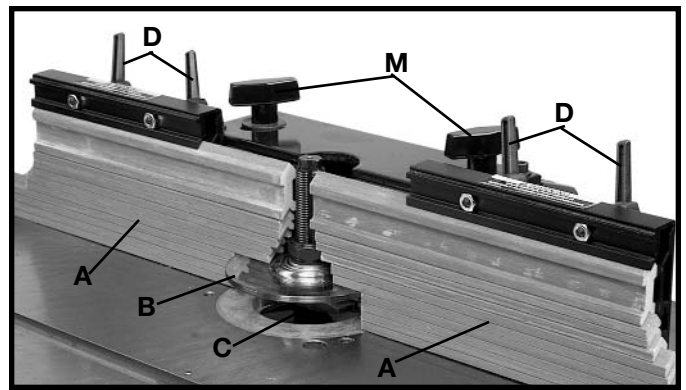
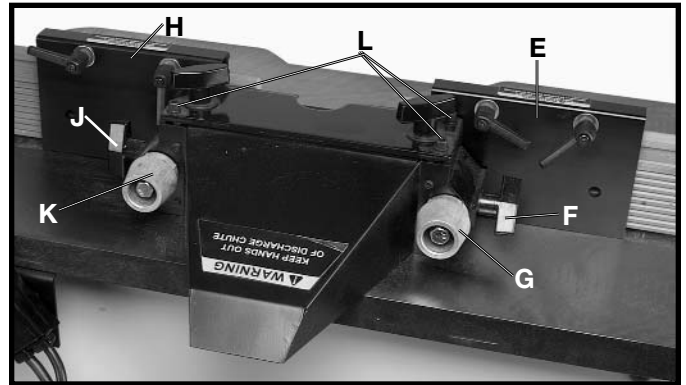

Fig. 25
Fig. 26
IMPORTANT: The individual fence segments (A) should be adjusted endwise so the opening is never more than required to clear the spindle guard (B) and cutter (C), as shown in Fig. 25. To adjust the fence segments (A) endwise, loosen lock handles (D), adjust each individual fence segment (A) and tighten lock handles (D). **NOTE:** Lock handles (D) are spring-loaded and can be repositioned by pulling out on the handle and repositioning the hub of the handle on the serrated nut located underneath the handle.
The complete fence assembly can be positioned on the table in relationship to the cutter by loosening the two knobs (M) Fig. 25, moving the fence assembly to the desired position and tightening the two knobs (M). Each fence half (E) and (H) Fig. 26, can be moved independently in or out, depending on the type of shaping operation that is being performed. To move fence half (E) Fig. 26, in or out, loosen lock knob (F) and turn adjusting knob (G) until the correct setting of the fence (E) is obtained. Then tighten lock knob (F). Fence half (H) is moved in the same manner by loosening lock knob (J) and turning adjusting knob (K).
In order to do accurate shaping, both fence halves (A) Fig. 25, must be parallel with each other. To check and adjust, move both fence halves (A) in or out until they are in line with each other. Using a straight edge check to see if both fence halves are parallel with each other the complete length of the fences. If an adjustment is necessary loosen four screws (three of which can be seen at (L) Fig. 26) and adjust the fences accordingly. Then tighten the four screws (L).